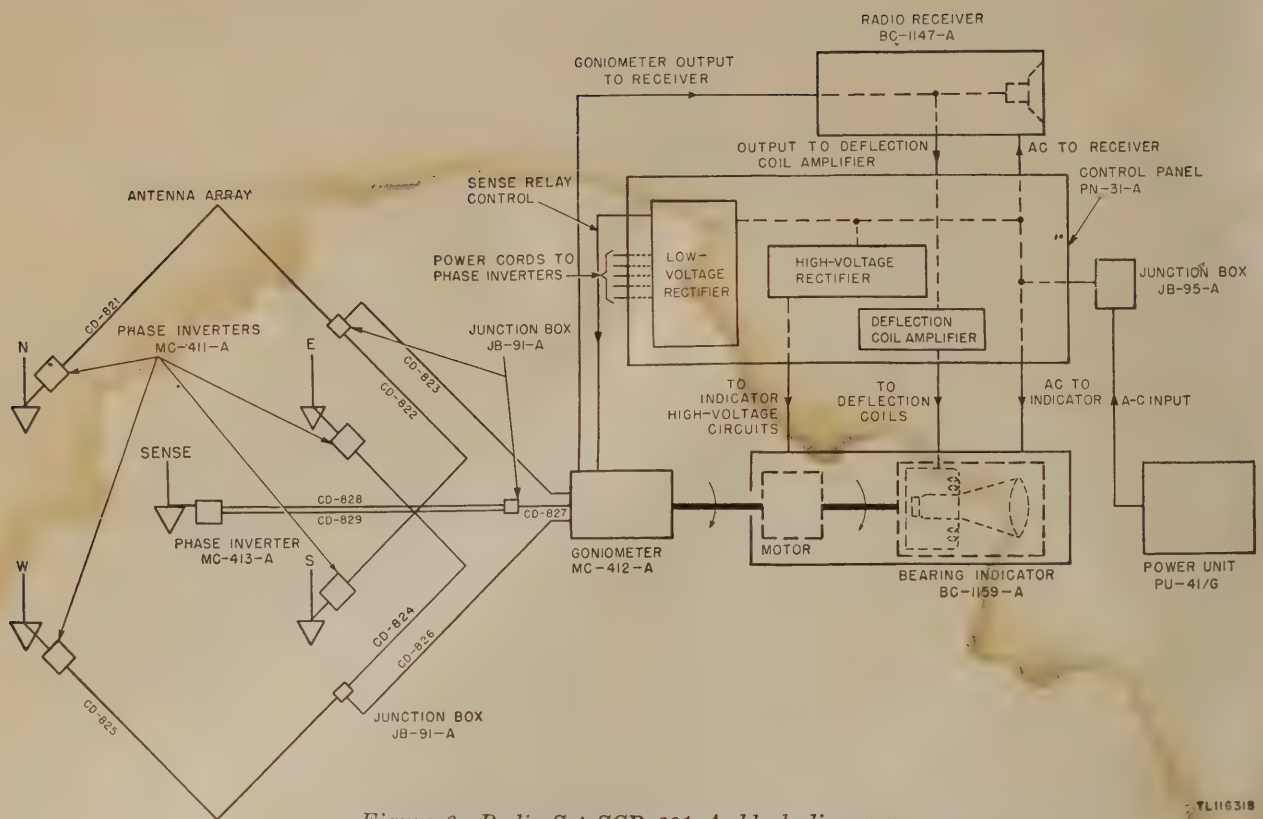

Figure 3. Radio Set SCR-291-A, block diagram.
b. BLOCK DIAGRAM (fig. 3). The antenna array portion of the block diagram is a plan view of the U-Adcock antennas, the sense antenna, the interconnecting cables, and the